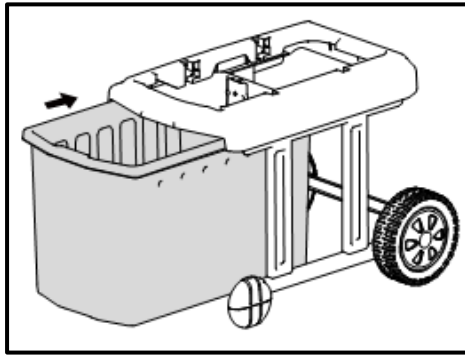

Fig.7
6. Slide the collection box back to the base frame. Ensure that the collection box runs above the guide rails. (Fig. 7)